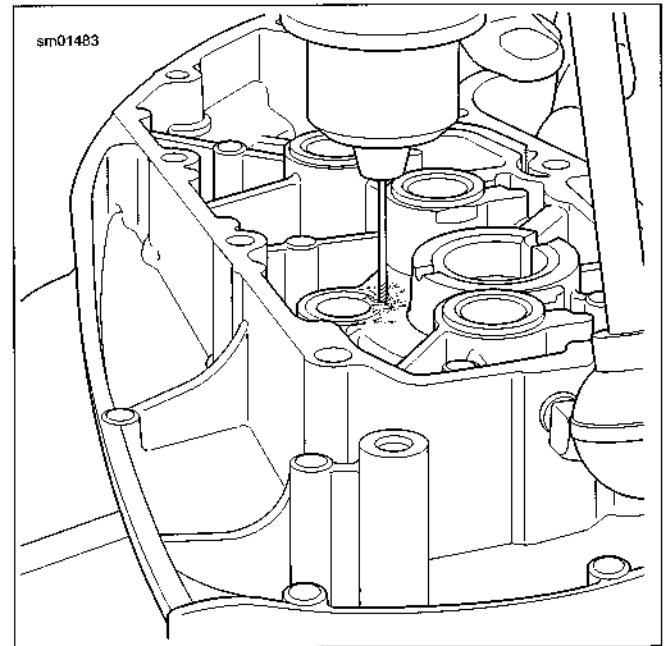

Figure 3-89. Drilling Pinion Bushing Dowel Pin Hole in Gearcase Cover
2. See Figure 3-89. The replacement bushing must be secured from rotation by installation of a dowel pin. Drill a No. 31 hole, 0.281 in (7.14 mm) deep, at top side of boss (side toward top of gearcase cover). Center drill bit so hole is drilled half in bushing and half in cover.